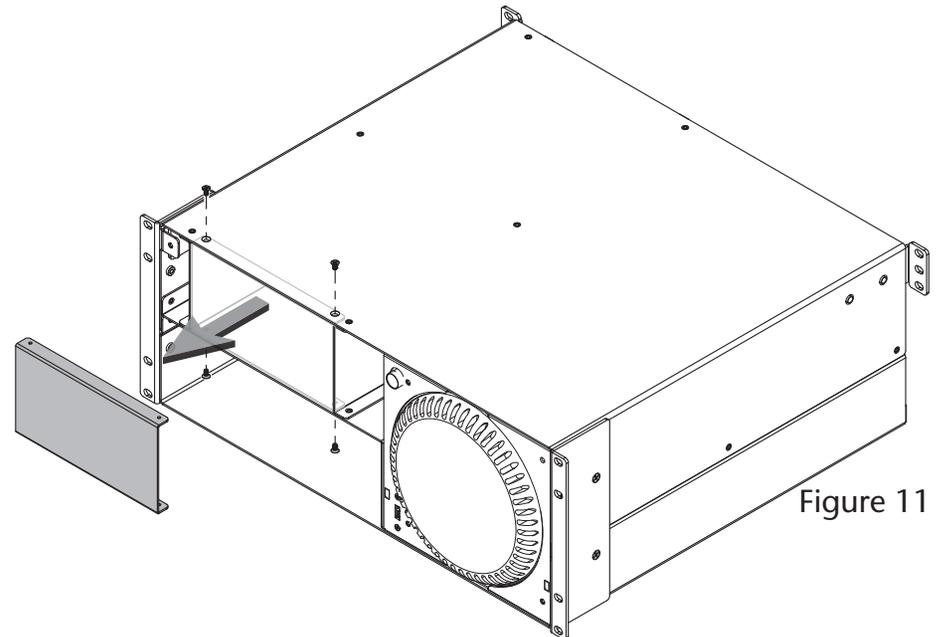

Figure 11
6. Using a Phillips screwdriver, remove and set aside the four screws securing the blank plate inside the enclosure, and then remove the blank plate (**Figure 11**). Note that you will reuse three of the four screws to secure the kit to the rackmount enclosure at a later step.